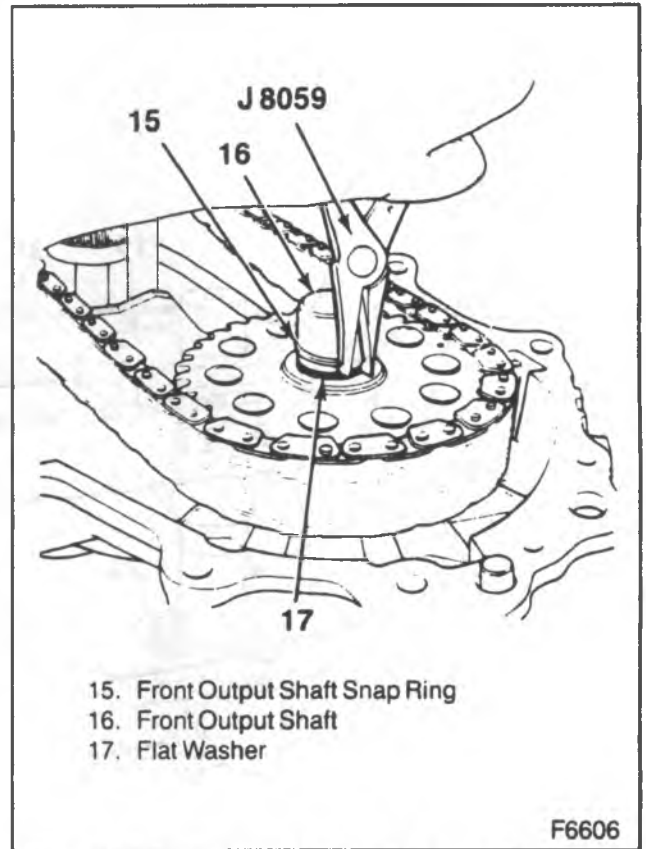
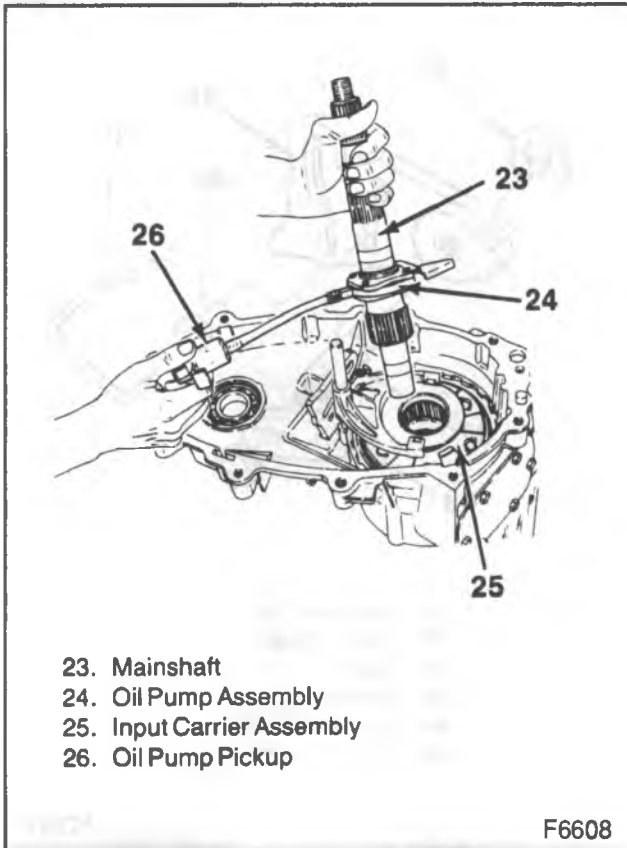

Figure 9—Removing the Front Output Shaft Snap Ring
Figure 11—Removing the Mainshaft and Oil Pump
Install or Connect (Figures 9 through 25)
18. Mainshaft (23) and oil pump assembly (24) into the carrier assembly (25) (figure 11).
19. Front output shaft (16) to the front output bearing (22).
20. Drive gear (18), driven gear (19), and drive chain (20) as an assembly to the mainshaft (23) and front output shaft (16).
21. Flat washer (17) to the front output shaft (16).
22. Front output shaft snap ring (15) to the front output shaft (16) (figure 9).
23. Synchronizer assembly (12) and mode shift fork (13) aligning the synchronizer assembly to the mainshaft drive gear (18) and the mode fork to the shift rail (9).
24. Synchronizer hub (55) to the synchronizer assembly (12).
25. Clutch coil housing (11) and clutch coil housing snap ring (10) to the mainshaft (23).
26. Shift rail spring (8) to the shift rail (9).
27. Clutch coil (7) to the rear case (46).
28. Clutch coil nuts (6) to the clutch coil (7).